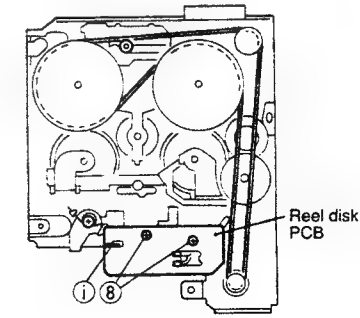

Fig. 20
◆ **Removing the reel disk PCB (See Fig. 20)**
5. Straighten the curved tab ① securing the reel disk PCB. (Fig. 20)
6. Remove the two screws ② fixing the reel disk PCB. (Fig. 20)